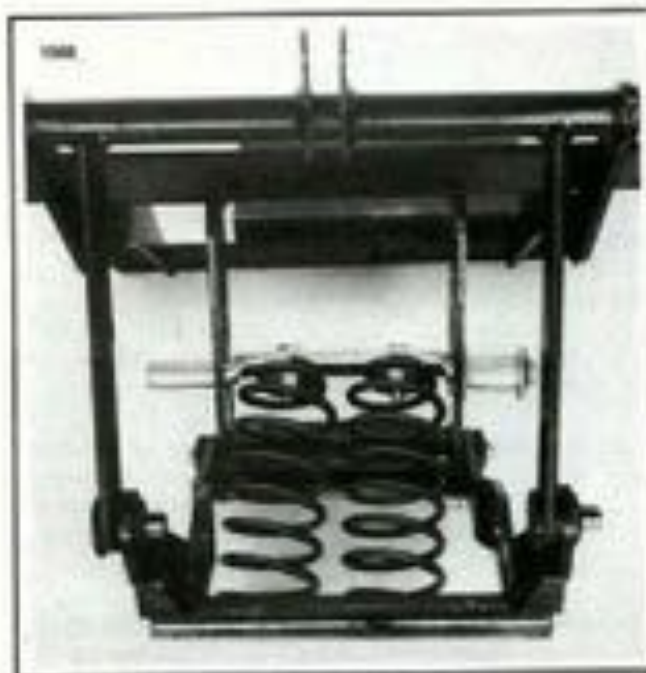

Figure 2-110. Installing Adjusting Rod and Springs 1978 1/2 to 1980
- See Figure 2-110. Insert the adjusting rod through the right side of the five-slot brackets. Position the